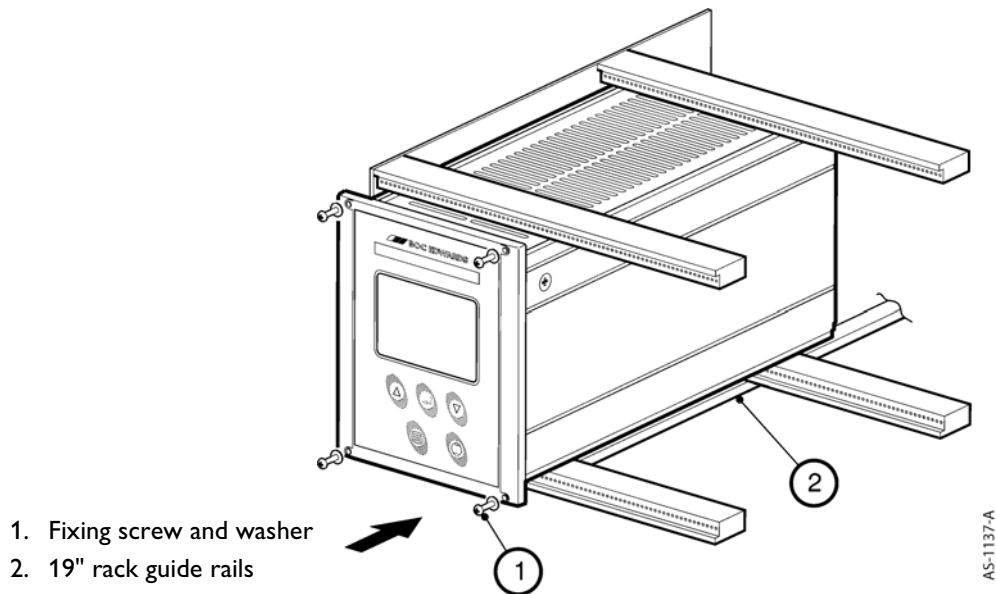

Figure 8 - Rack mounting of a TIC
- Slide the Controller into the 19" rack or panel cut out. The use of 19" rack guide rails (Figure 8, item 2) and support at the rear of the Controller is recommended as shown in Figure 8. The panel cut out information is defined in Figure 9.
- Fix the Controller in place using the four screws removed previously (Figure 8, item 1).